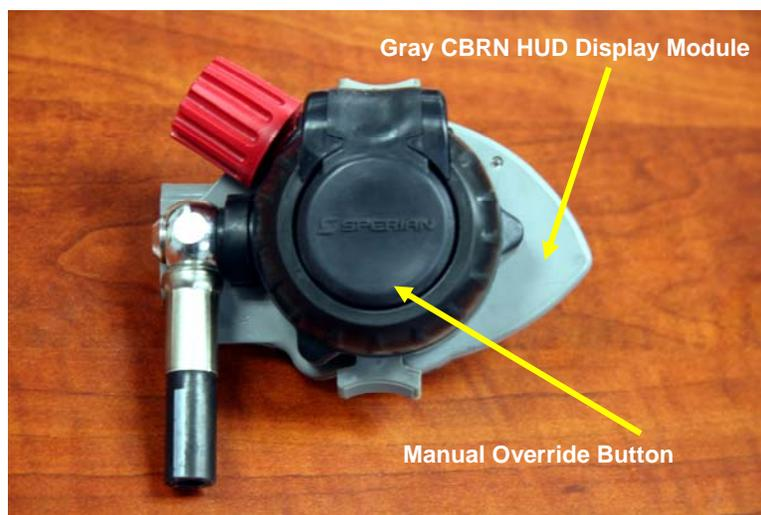

Figure 2
**If you are able to inhale ambient air before you are able to activate the FBO in a Sperian or Survivair CBRN SCBA, or if the inhalation effort required to activate the FBO is very high, push the manual override button on the front of the second stage regulator (see Figure 2) to manually start the regulator. Cylinder air will then start flowing through the regulator normally.**
If you have Panther CBRN second stage regulators manufactured in 2004, 2005, 2006 or 2007, in addition to replacing the Air Klic, **you must also replace the second stage regulator housing** using the Panther CBRN Second Stage Housing Upgrade Kit, part number 968849. To identify whether your Panther second stage regulator is CBRN, all CBRN second stages have HUD display modules which are gray in color (see Figure 2). Non-CBRN second stage regulators are black in color. If you have non-CBRN Panther SCBAs with black HUD display modules, you do **not** need to replace the second stage regulator housing. If you have Warrior SCBAs, you do **not** need to replace the second stage regulator housing.